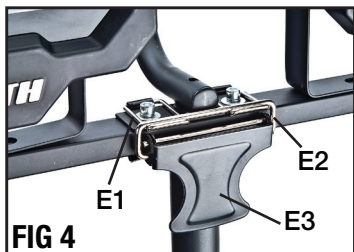

FIG 4
1. Place the work light assembly on the top of the tripod. Insert bottom ends of the two Hex screws (10) into two holes on the supporting bracket (E).
2. Use the bracket locking system (E1, E2 and E3) to secure the work light assembly to the tripod as shown in FIG 4.